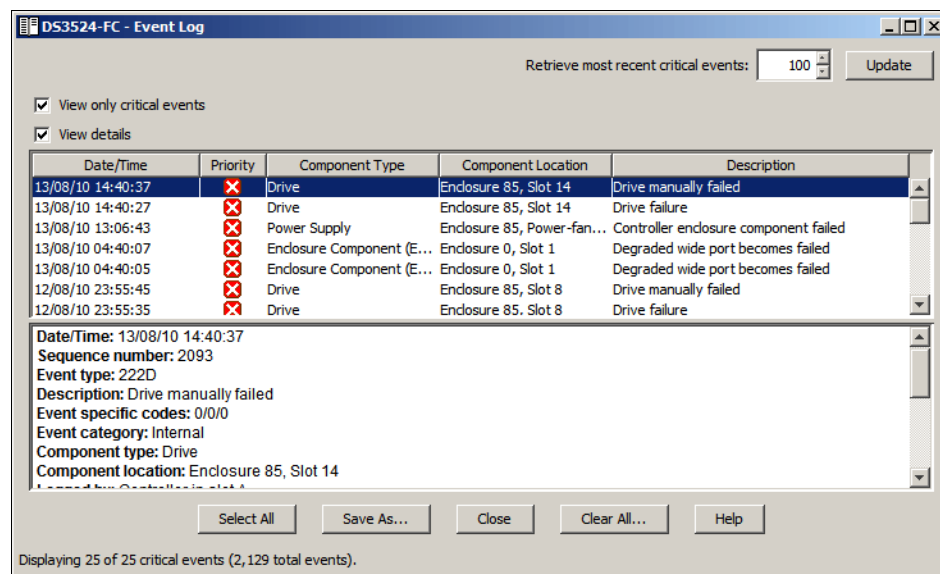

Figure 14-94 View only Critical Events
- **View only critical events:** Select this to display only the critical events as shown in Figure 14-94.
- **View details:** Select this check box to view the details of a highlighted event in the lower half of the window as shown in Figure 14-94.